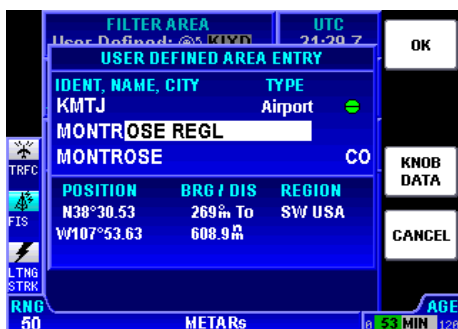

Figure 2-65
8. Turn the Rotary Knob to scan through the database until the desired name is displayed as in Figure 2-65.